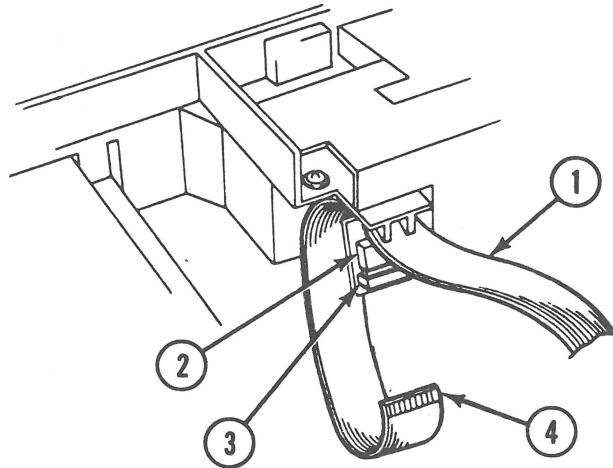

FIGURE 8
12. Disconnect the flexible cable (Figure 8, #1) from connector CN1 (Figure 8, #2) of the CCD PCB by gently pulling down on the bottom part of the connector (Figure 8, #3) and then pulling out the cable (Figure 8, #4). Remove the cable by sliding the cable to the open side.